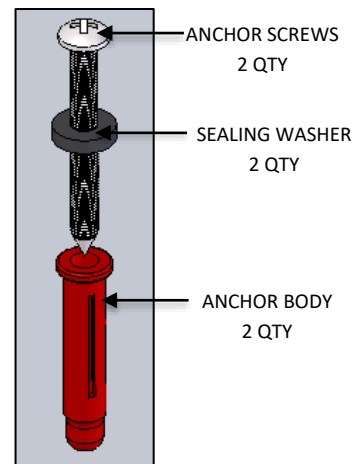

FIG.4 – MOUNTING HARDWARE
- i. TWO (2) ANCHOR BODY (shown in FIG. 4)
- ii. TWO (2) ANCHOR SCREWS (shown in FIG. 4)
- iii. TWO (2) SEALING WASHERS (shown in FIG. 4)